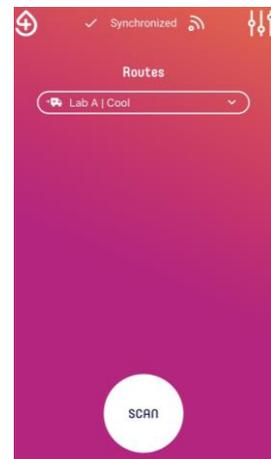

Figure 13. Registered transport routes
- Route information will be displayed on the screen after successful assignment of a SmartTube to a route (see Figure 13).